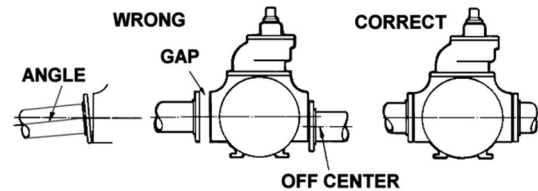

Figure 2
7. Check alignment of pipes to pump to avoid strains which might later cause misalignment. See Figure 2. Unbolt flanges or break union joints. Pipes must not spring away or drop down. After pump has been in operation for a week or two, completely recheck alignment.